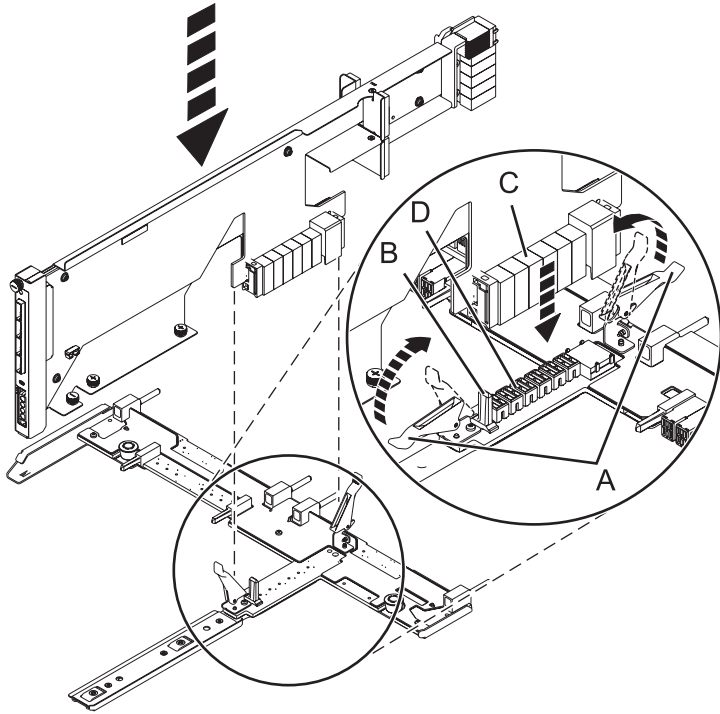

Figure 57. Installing the SAS conduit card into the midplane
- a. Place the card connector (C) on the midplane connection (D) using the guide track (B) to ensure a good connection.
- b. Lift the handle (A) to seat and secure the SAS conduit card to the midplane as shown in Figure 57 on page 75.